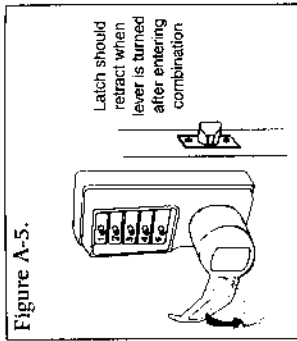

Figure A-5.
7. Turn the outside lever once, all the way, until it stops, hold in position and make sure the latch is retracted. Release the lever. Turn the lever clockwise again to the stop position. At this point, the latch should not retract unless you enter the new combination (see Figure A-5).